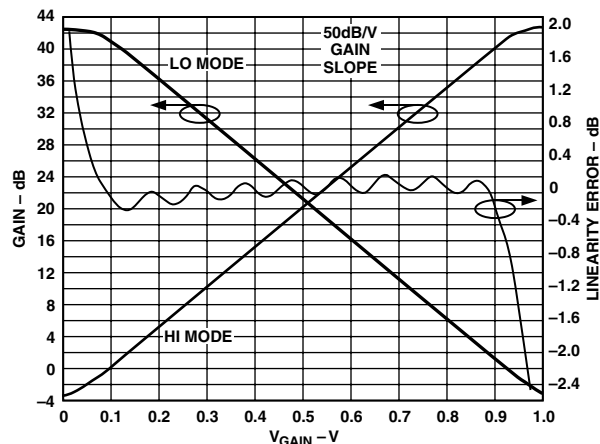

Figure 2. The gain function can be either an increasing or decreasing function of V_{GAIN} depending on the MODE pin.
The gain of the AD8367 can be an increasing or decreasing function of the control voltage, V_{GAIN} , depending on whether the MODE pin is pulled up to the positive supply or down to ground. When the MODE pin is high, the gain increases with V_{GAIN} as shown in Figure 2. The ideal linear-in-dB scaled transfer function is given by,
where V_{GAIN} is expressed in volts. Equation 1 contains the gain scaling factor of 50 dB/V (20 mV/dB) and the gain intercept of -5 dB which represents the extrapolated gain for $V_{GAIN} = 0$ V. The gain ranges from -2.5 dB to 42.5 dB for V_{GAIN} ranging from 50 mV to 950 mV. The deviation from (1), that is, the gain conformance error, is also illustrated in Figure 2. The ripples in the error are a result of the interpolation action between tap points. The AD8367 provides better than ± 0.5 dB of conformance error over >40 dB gain range at 200 MHz and ± 1 dB at 400 MHz.
The gain is a decreasing function of V_{GAIN} when the MODE pin is low. Figure 2 also illustrates this mode which is described by